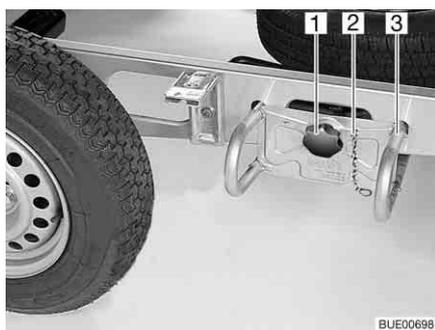

Fig. 235 Spare wheel support
- Unhook the safety chain (Fig. 235,2).
- Loosen and unscrew the star handle (Fig. 235,1).
- Pull out the spare wheel support (Fig. 235,3) about 10 cm and place it on the ground.